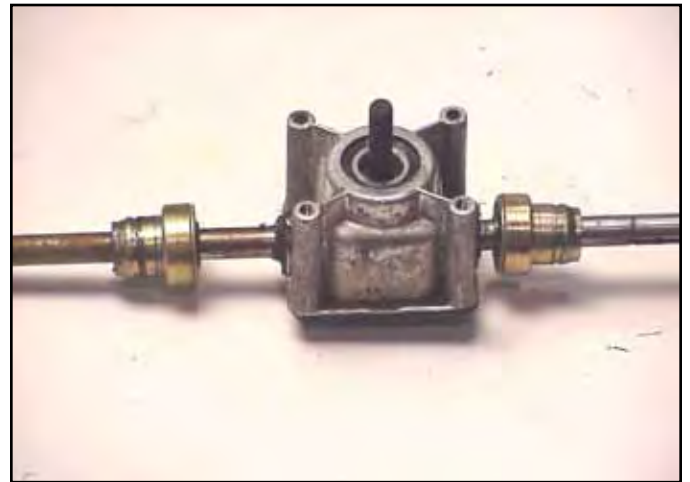

Fig 105 MVC-301X
17. The last step is to slide the bearings and bearing retainers off the axle (Fig. 105).